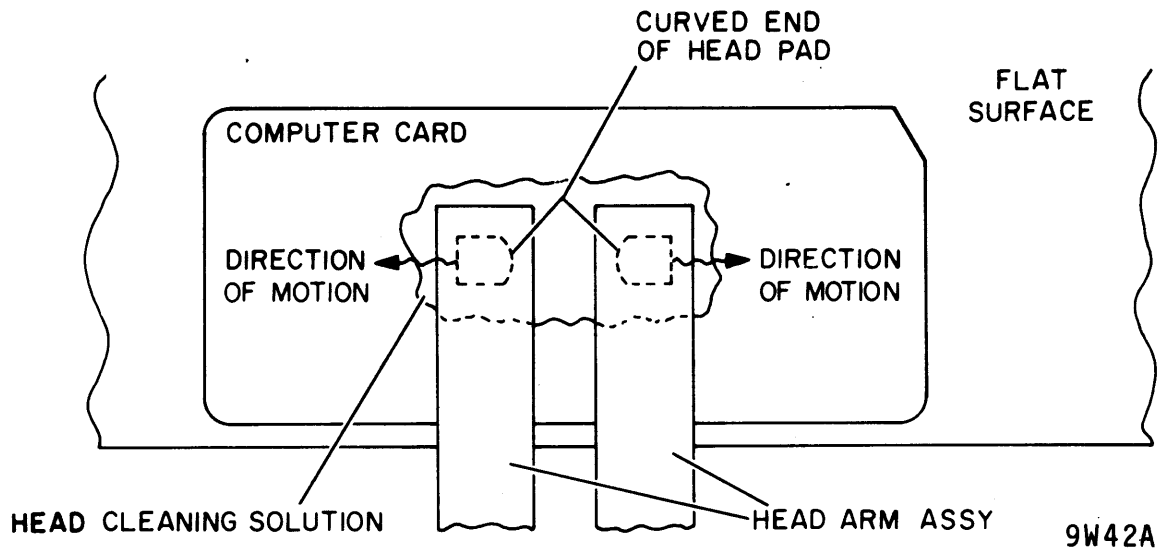

Figure 6-13. Head Cleaning Motion
Refer to figure 6-13 if head cleaning is required and perform the following procedure. Use care not to damage any part of the head arm assembly.
3. Place a new, unpunched, clean computer card with the back side up (printing down) on the clean flat working surface as shown in figure 6-13.
5. Very carefully place the head pad flying surface on moistened area and move head pad from moistened area to dry area in a zig-zag motion as shown in figure 6-13. Move head in a direction away from curved end of head pad. If it is moved in the opposite direction, the sharp edge of the curved end will cut into the computer card and prevent movement and proper cleaning.